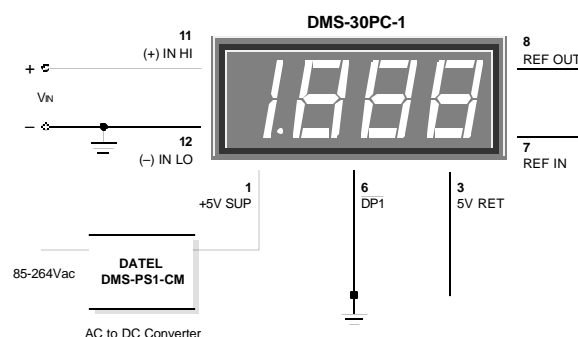

Figure 2. Single-Ended Input Configuration
1. **Single-Ended Input Configurations:** True single-ended measurements can be made with any DMS-30PC meter. The circuit of Figure 2 avoids problems normally associated with ground-loop currents. Separate ground runs should be used for 5V RETURN (pin 3) and (–) INPUT LO (pin 12). This will ensure that large LED currents will not flow in the wiring that connects V_{IN} to (–) INPUT LO (pin 12). Ground-loop currents can cause unstable readings.